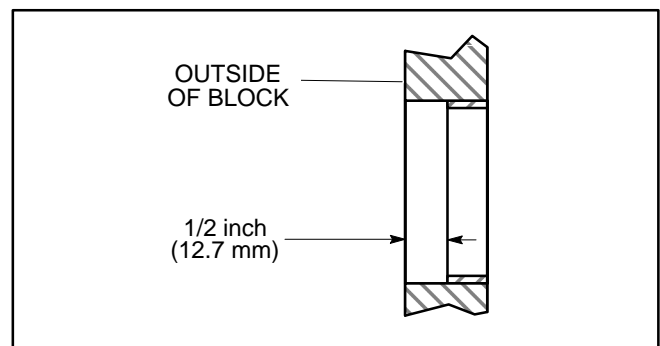

FIGURE 63. REAR CAMSHAFT BEARING
**Rear Bearing:** See Figure 63. Press the rear bearing in so that it is located 1/2 inch (12.7 mm) from the outside edge of the bore. There is no oil hole in the rear bore.